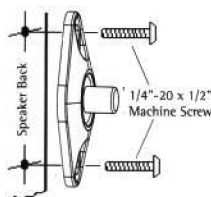

Figure 5
- Find the best mounting configuration that matches your speaker enclosure. Four-hole speaker mount patterns can be accommodated by positioning the speaker plate diagonally (Figure 5).
- Using the 1/4\"-20 x 1/2\" machine screws, install the speaker plate and secure the speaker enclosure (Figure 5).